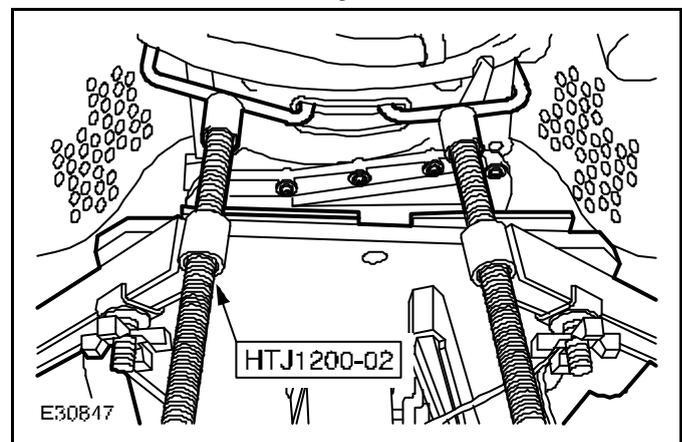

Fig. 6
- 15 Remove the special tool (see Fig. 6).